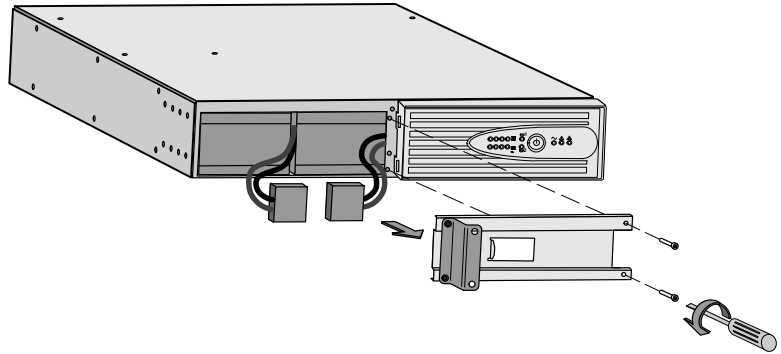

Figure 27. Removing the Battery Cover
3. Unscrew and remove the metal battery cover (see Figure 27).